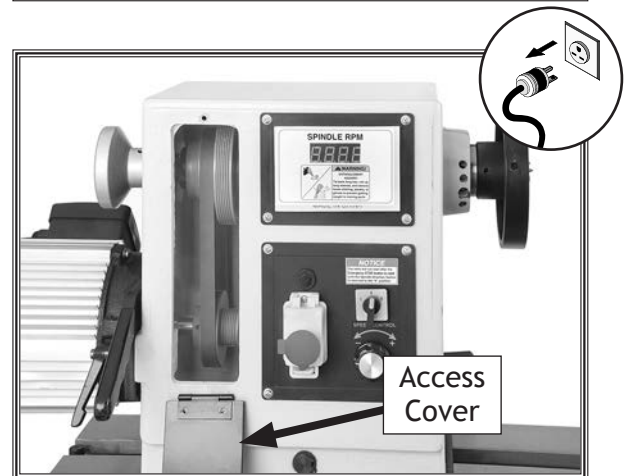

Figure 29. Belt access cover removed.
2. Open front belt access cover, as shown in Figure 29.